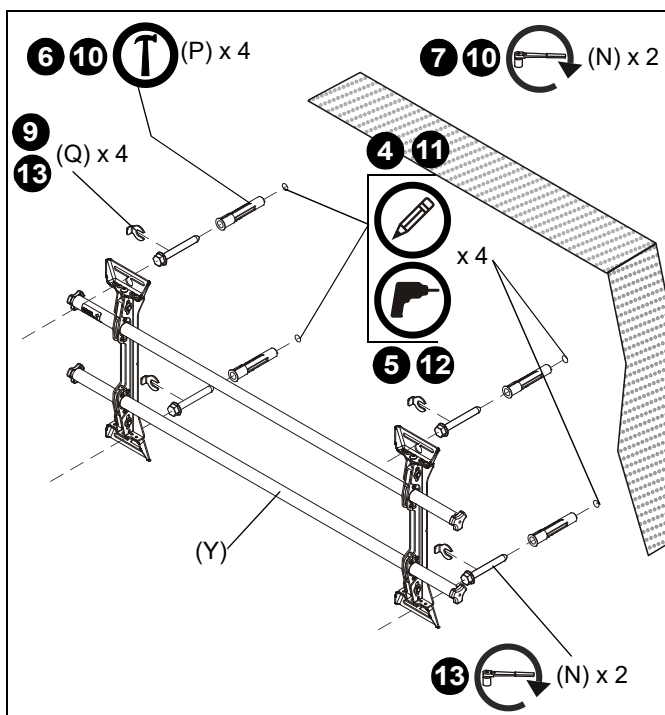

Figure 3
4. Using a level, mark the wall through both upper mounting slots. (See Figure 3)
6. Install an anchor (P) into each pilot hole using a hammer, making sure that the anchor is flush with the wall.
7. Partially install two 5/16 x 2-1/2" flanged lag bolts (N) into pilot holes but do not tighten to wall.
8. Hang mount (Y), aligning upper mounting slots over lag bolts and adjust side-to-side for proper location.
9. Place one slotted washer (Q) over each flanged lag bolt. (See Figure 3)
10. Tighten lag bolts to secure mount (Y) to wall at upper mounting slots.
11. Mark the attachment points for the lower mounting slots, making sure the attachment points are located on the studs. (See Figure 3)
12. Drill 3/8" x 3-1/2" (9.5mm x 88.9mm) pilot holes at markings for lower mounting holes. (See Figure 3)
13. Use two 5/16 x 2-1/2" flanged lag bolts (N) and two 5/16" slotted washers (Q) to attach the mount to the wall through the lower mounting holes. (See Figure 3)